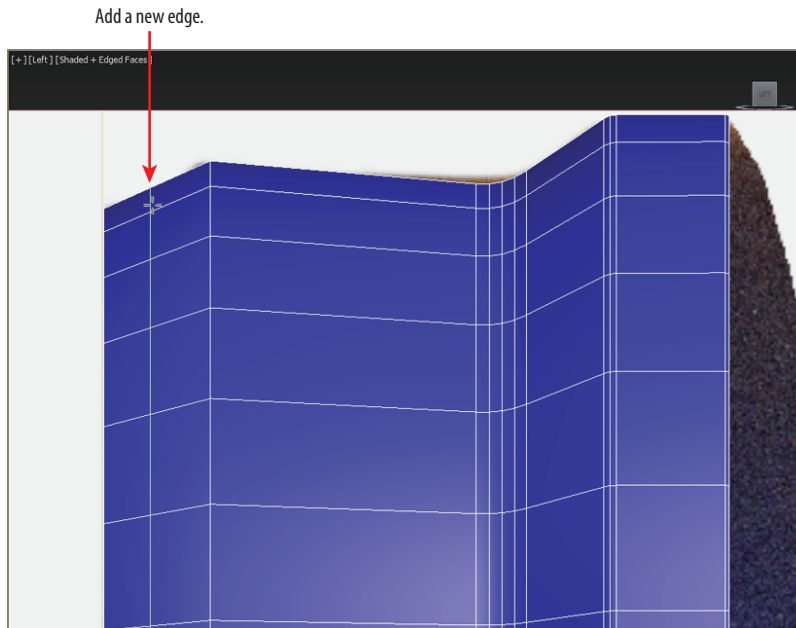

FIGURE 2.17 Add an edge loop with SwiftLoop.
22. Add a SwiftLoop between the back edge of the clock and the loop that was added earlier, as shown in Figure 2.17.
23. In the main toolbar, select the Select And Uniform Scale tool (R), and scale down the edge loop until it matches the size in the image plane.